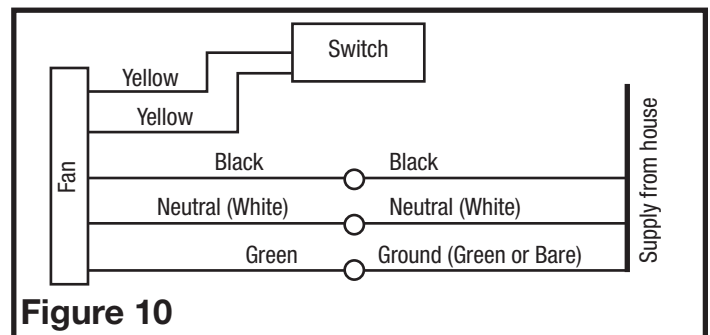

Figure 10
5. For two speed fans wired for continuous ventilation, connect the White wire of the fan to the White (Neutral) wire from the power source. Connect the ground wire from the house to the green wire from the fan housing. Run 2 wires from a properly grounded wall switch (not included) to the fan. Connect the Black wire of the fan to the Black wire (Hot) from the power source. Connect the Hot Yellow wire from the fan to the input of the switch. Connect the second Yellow wire from the fan to the output side of the switch. Closing the switch will change from normal to high speed (**Figure 10**).